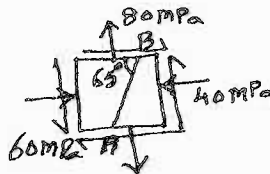

Fig.Q3(b)
- b. The stresses acting at a point in a two dimensional stress system is as shown in fig.Q3(b). Determine : i) Principal stresses ii) Normal and tangential stress on the plane AB iii) Maximum shear stress. (12 Marks)